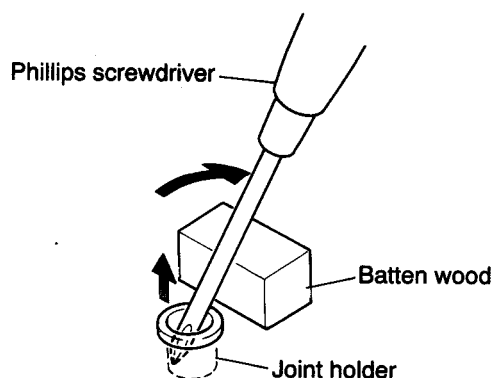

Fig. 5-60
■ **Removing the joint holders** (See Fig. 5-60)
Insert a Phillips screwdriver into each joint holder and remove it by levering. To avoid damaging the wooden cabinet, place a piece of batten wood as shown in Fig. 5-60.